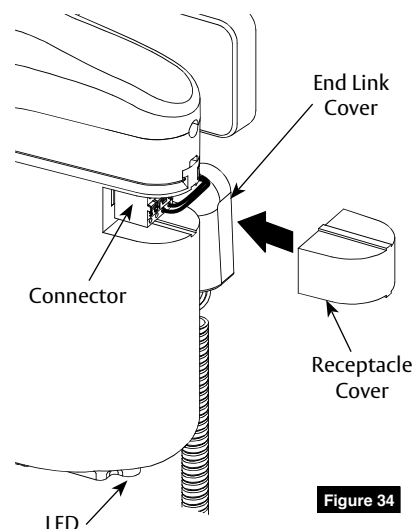

Figure 34
6. Remove receptacle cover from battery and plug connector into battery pack. (Figure 34)
8. Verify that LED indicator lights GREEN. (Figure 34)
9. Reinstall receptacle cover onto battery pack. (Figure 34)
10. Install covers onto end links. (Figure 34)